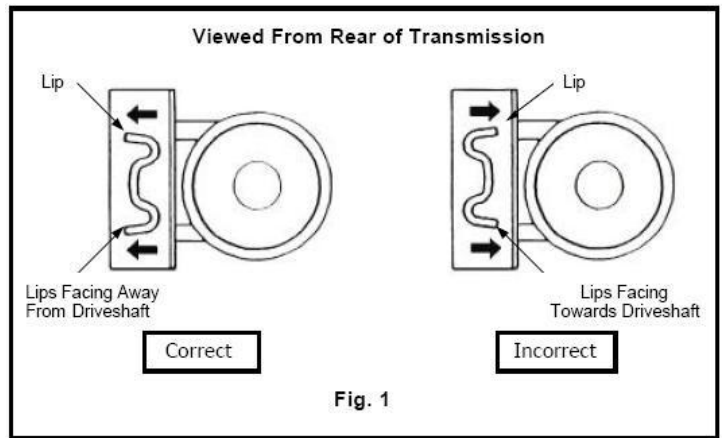

Fig. 1
**Note:** This torque arm is designed to fit 1984-2002 Camaro and Firebird with 1) US built GM corporate 10 bolt rear ends that have 7 1/2" or 7 5/8" ring gear and, 2) with front torque arm locator lips facing away from driveshaft (See **Figure. 1**).